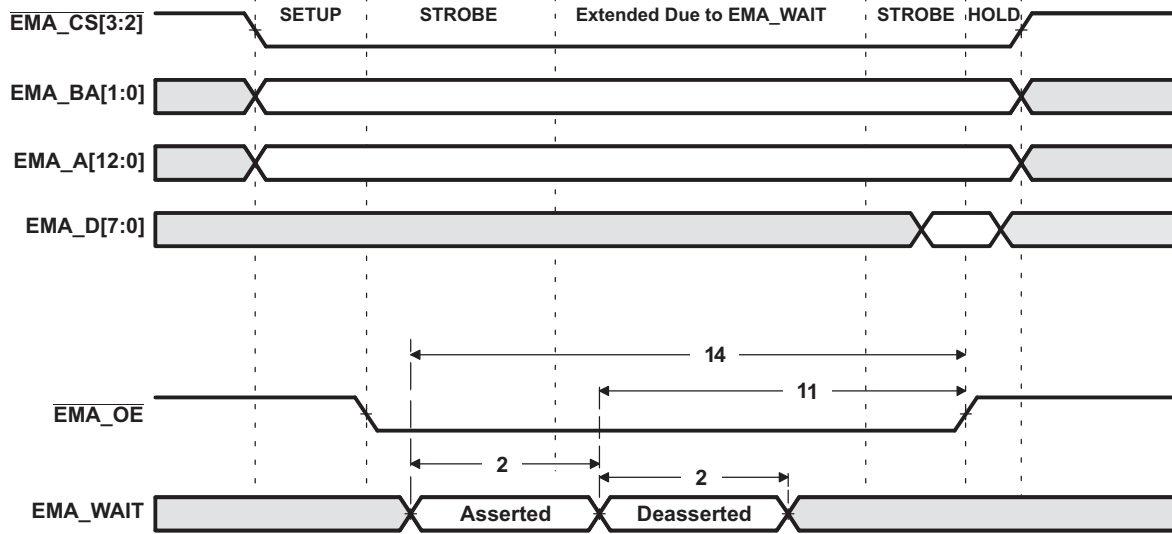

Figure 6-15. EMA\_WAIT Read Timing Requirements
- (1) E = EMA\_CLK period or in ns. EMA\_CLK is selected either as SYSCLK3 or the PLL output clock divided by 4.5. As an example, when SYSCLK3 is selected and set to 100MHz, E=10ns.
- (2) Setup before end of STROBE phase (if no extended wait states are inserted) by which EM\_WAIT must be asserted to add extended wait states. Figure 6-15 and Figure 6-16 describe EMIF transactions that include extended wait states inserted during the STROBE phase. However, cycles inserted as part of this extended wait period should not be counted; the 4E requirement is to the start of where the HOLD phase would begin if there were no extended wait cycles.
**Table 6-19. EMIFA Asynchronous Memory Switching Characteristics(1) (2) (3)**